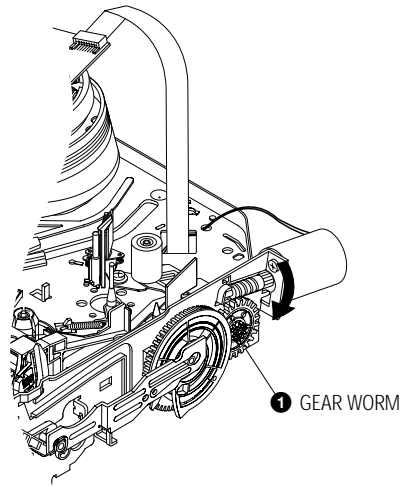

Fig. 2-42
- 3) Rotate Gear Worm ❶ clockwise using screw driver again up to the state of eject mode and then pick out the tape. (Refer to Fig.2-42)